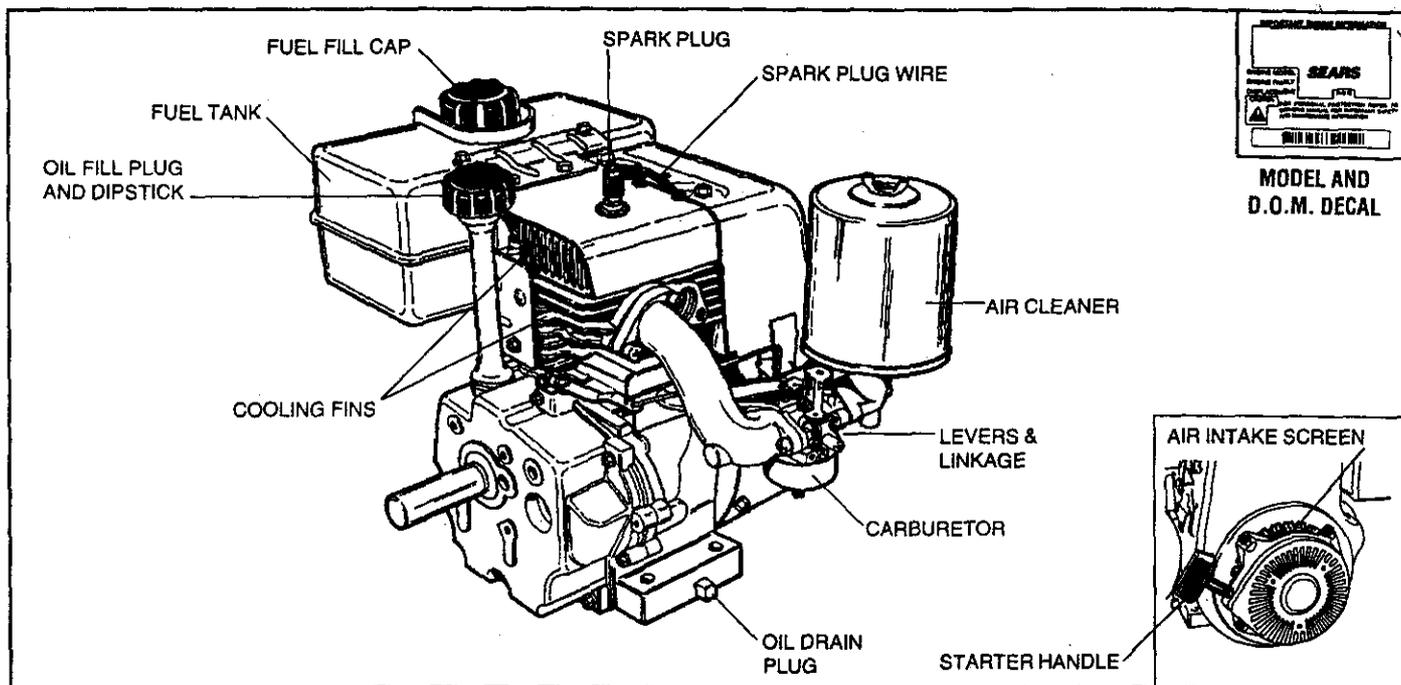

Figure 1
B. Clean area around oil fill plug (see Figure 1).
④ CHECK THE FOLLOWING:
- B. Be sure spark plug wire is attached to spark plug (see Figure 1).
- B. Clean area around drain plug (see Figure 1).
③ AIR CLEANER